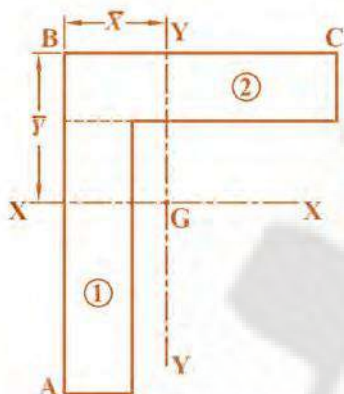

Fig.P5.2 Centroid of 'L' section [Example 5.2]
**Find the centroid of the section shown in the fig.P5.2**